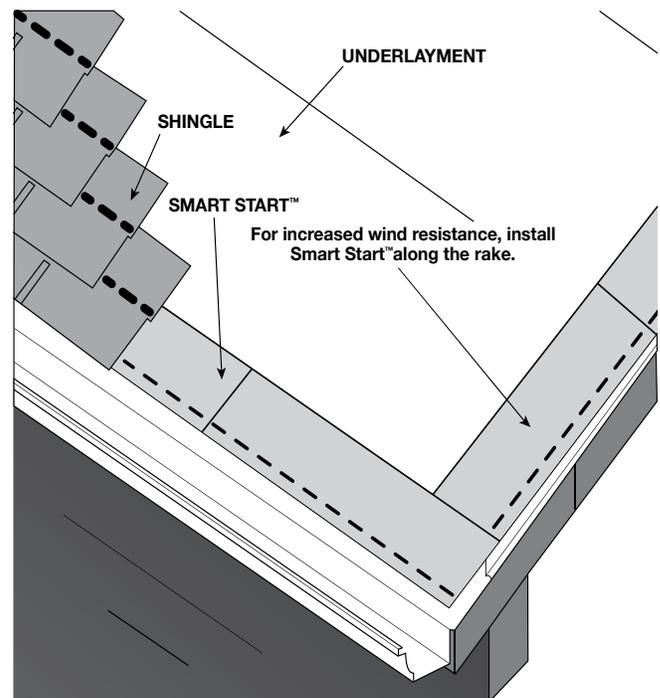

Figure 44 - Application of Smart Start® along the Eave and Rake Edges of Roof
Fasten with four (4) nails placed 1 1/2" - 3" (38-76 mm) back from the roof edge: one (1) nail 1" (25 mm) from each end and the other two (2) evenly spaced on the same line as the end fasteners. Do not place fasteners in the seal-down strip. No staples. (See Figure 44)